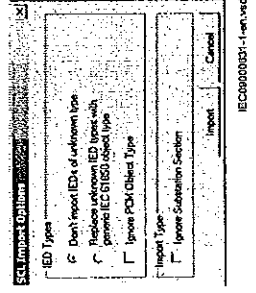

Figure 70: IEC 61850: SCL Import option
3. The *SCL Import Option* menu opens, which queries how the file should be handled during import, see Figure 70.